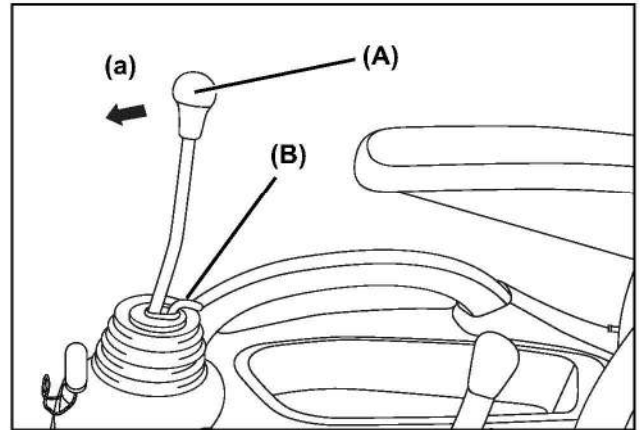

Fig 7-11
4. Use the implement control lever to lower the implements to the ground and lock to the N (neutral) position. (Fig 7-11)